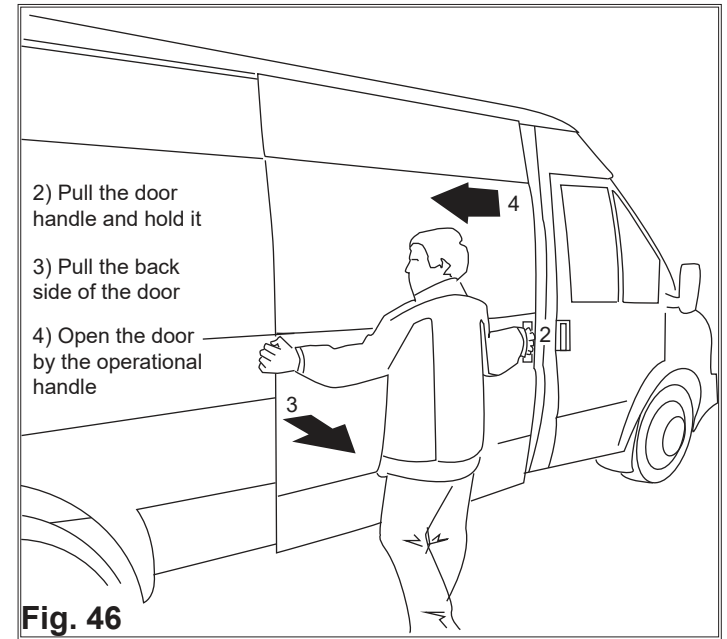

Fig. 46
2. Pull and hold the door handle (Fig. 46).
3. Pull the left-hand part of the door towards you (Fig. 46).
4. Open the door with the door handle to the left, (Fig. 46).